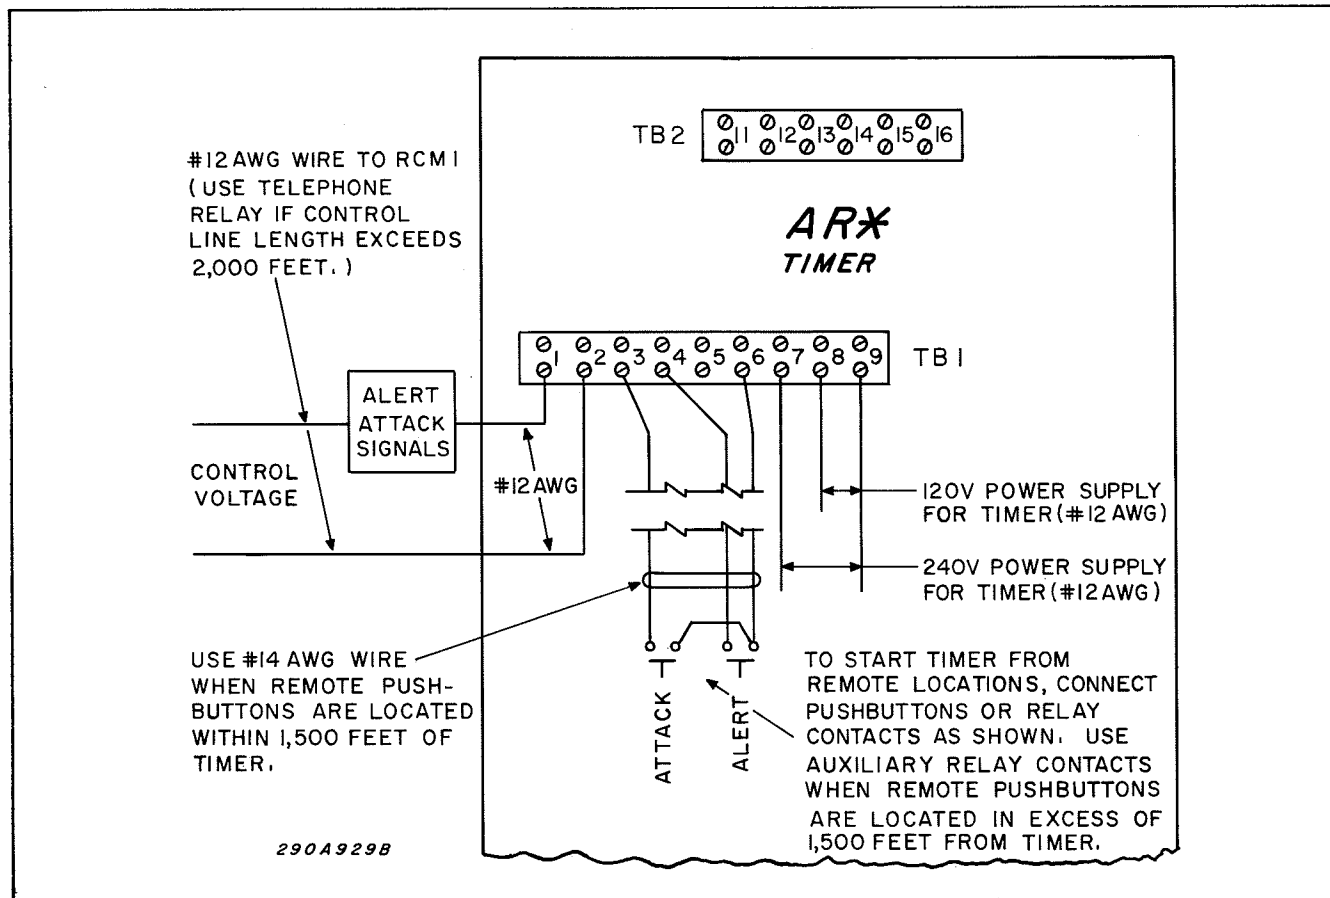
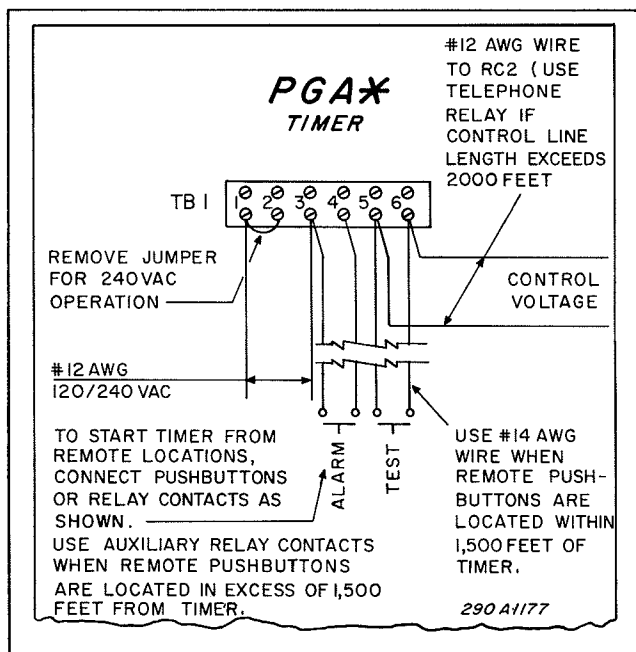

Figure 3-12. AR Timer Electrical Connections.
Figure 3-13. PGA Timer Electrical Connections.
7. Connect the AR or PGA Timer to terminals L1 and 3 in the motor starter. See figure 3-12 or figure 3-13, as appropriate,